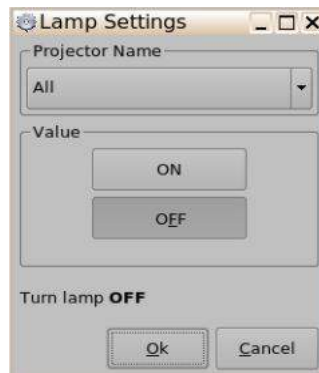

Figure 11: Lamp Settings Window
- The user can configure the Lamp settings on the Lamp Settings window (Figure 11).